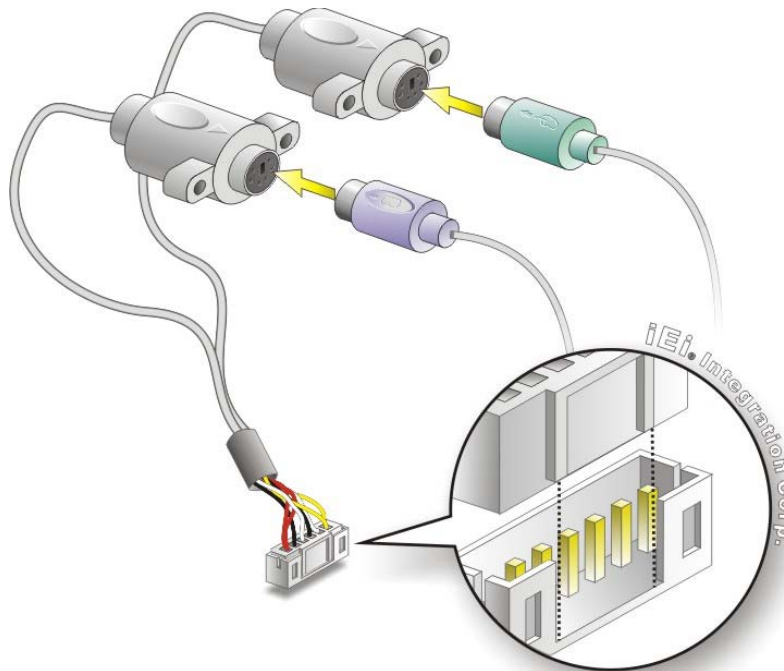

Figure 4-15: Keyboard/mouse Y-cable Connection
- Step 2: Align the connectors.** Correctly align pin 1 on the cable connector with pin 1 on the WAFER-PV-D5252/D4252/N4552 keyboard/mouse connector. See Figure 4-15.
- Step 3: Insert the cable connectors** Once the cable connector is properly aligned with the keyboard/mouse connector on the WAFER-PV-D5252/D4252/N4552, connect the cable connector to the on-board connectors. See Figure 4-15.